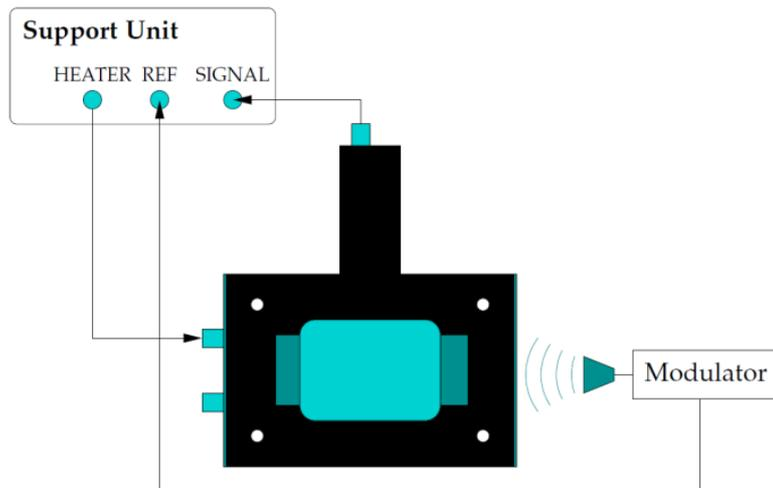

Figure 2.3: Schematic of the apparatus: connecting the TK power meter head, the support unit and the source of frequency modulation.
7. Using one of the BNC cables supplied, connect the pressure transducer BNC output on the top of the power meter head to the BNC connector labelled SIGNAL, as shown in Figure 2.3. The second cable should run from one of the two film heating connections on the side of the power meter to the BNC cable labelled HEATER.